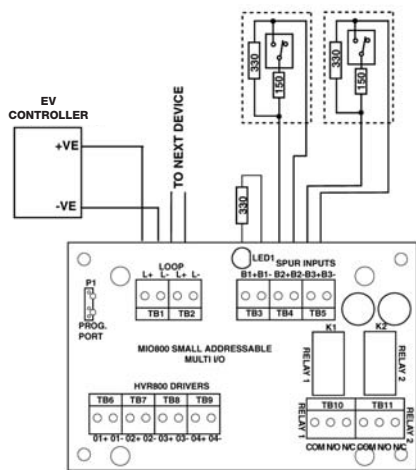

Fig. 5 Spur Circuits (Class B) Normally Open Contacts Short Circuit = Fault
- 4) See Figs 5 to 8 for EV-MIO simplified wiring diagrams.